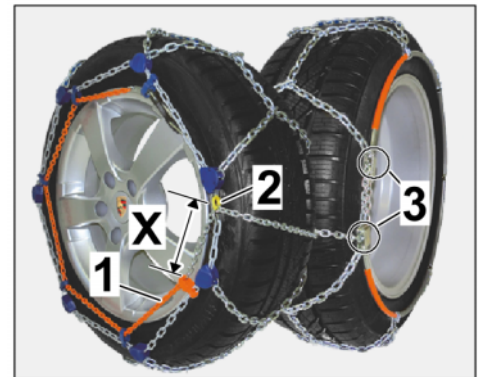

Figure 15
2.4 Check that the snow chain is installed correctly on the wheel (⇒ *Figure 15*)
- The area marked in red on the tensioning chain must be pulled completely through the slot on the locking plate. The distance between the area marked in red and the slot on the locking plate (dimension X ⇒ *Figure 15 -X-*) can vary depending on the tire size.
- Position of deflection roller/tensioning points (inside of wheel ⇒ *Figure 15 -4-*): must **NOT** be lying on the running surface of the tire or touching the road.